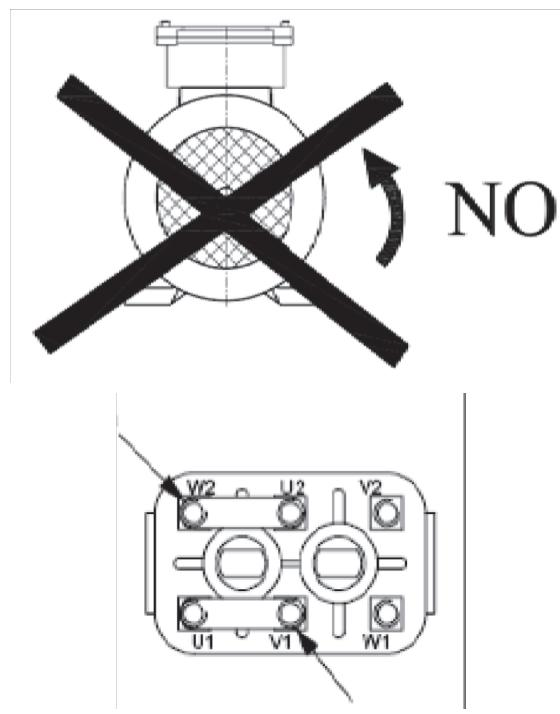

Figure 3-84.
13. Check from the fan side, if the electrical motor run in correct CW direction, otherwise swap the wires connected as shown on (Figure 3-84.).